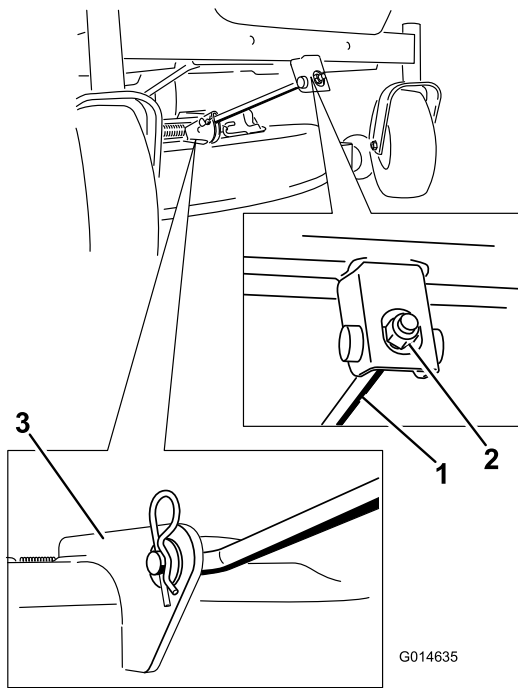

Figure 56
4. Remove the hairpin-cotter pin from the front support rod, and remove the rod from the deck bracket (Figure 56).
- Attach the front support rod to the mower deck with the clevis pin and hairpin-cotter pin (Figure 56).